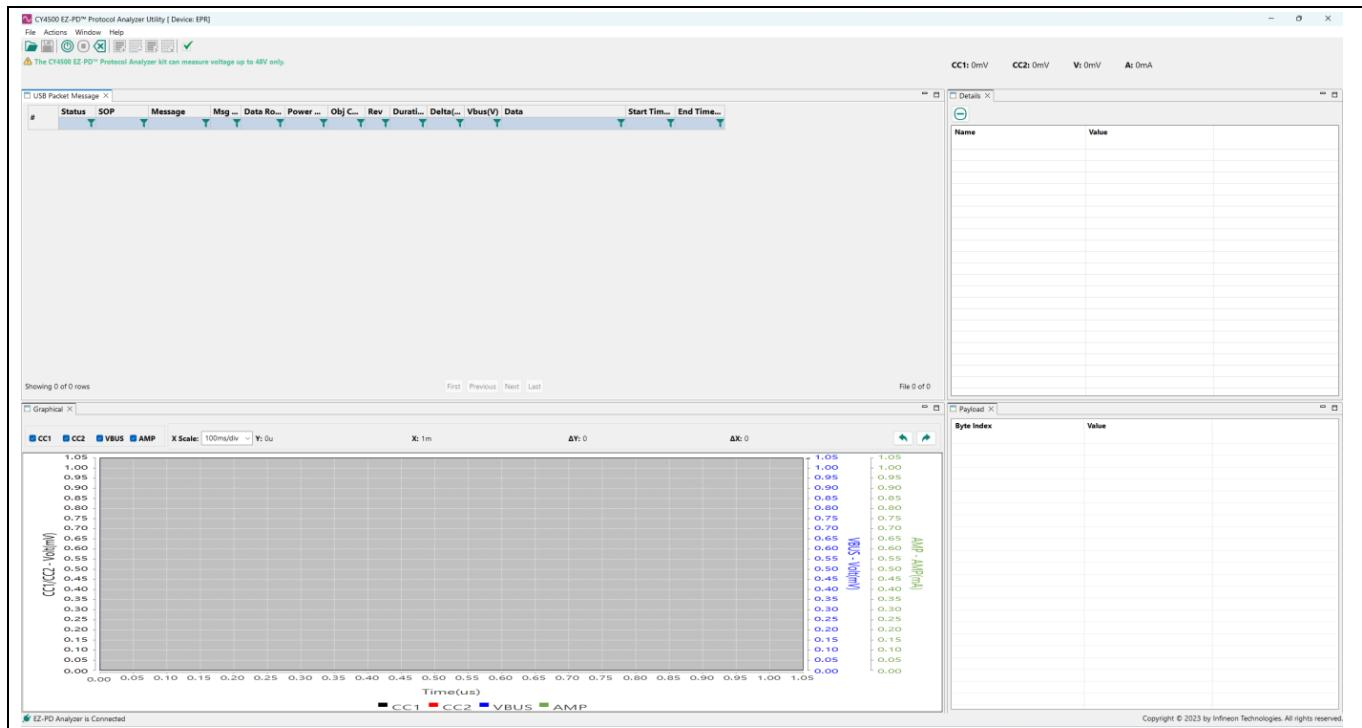

Figure 12 EZ-PD™ Analyzer Utility start-up page
4. On the host PC, launch the EZ-PD™ Analyzer Utility from **Start > All Programs > Infineon EZ-PD™ Analyzer Utility**. The EZ-PD™ Analyzer Utility's start-up page looks similar to the image shown in Figure 12.
Alternatively, you can also start capturing data by clicking on **Actions > Start Capturing** from the menu bar. The status bar at the bottom of the utility window shows the message “started capturing” (similar to the status bar at the bottom of Figure 12).